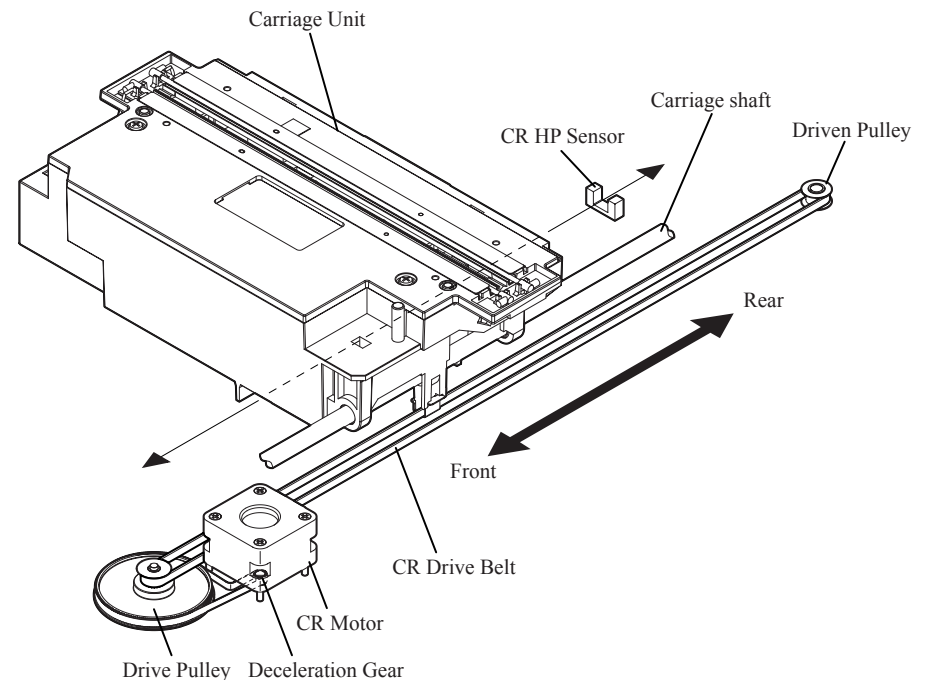

Figure 2-5. Carriage Operation
The Carriage Unit slides along the guide shaft in the secondary scanning direction. The CR (Carriage) Motor transmits its drive power to the CR Drive Belt attached to the Carriage Unit, via the Drive Pulley and Deceleration Gear. See Figure 2-5. The CR Motor is a stepper motor under open loop control. The image data scanning start position is determined by the CR Home Position (HP) Sensor located on the Control Board.